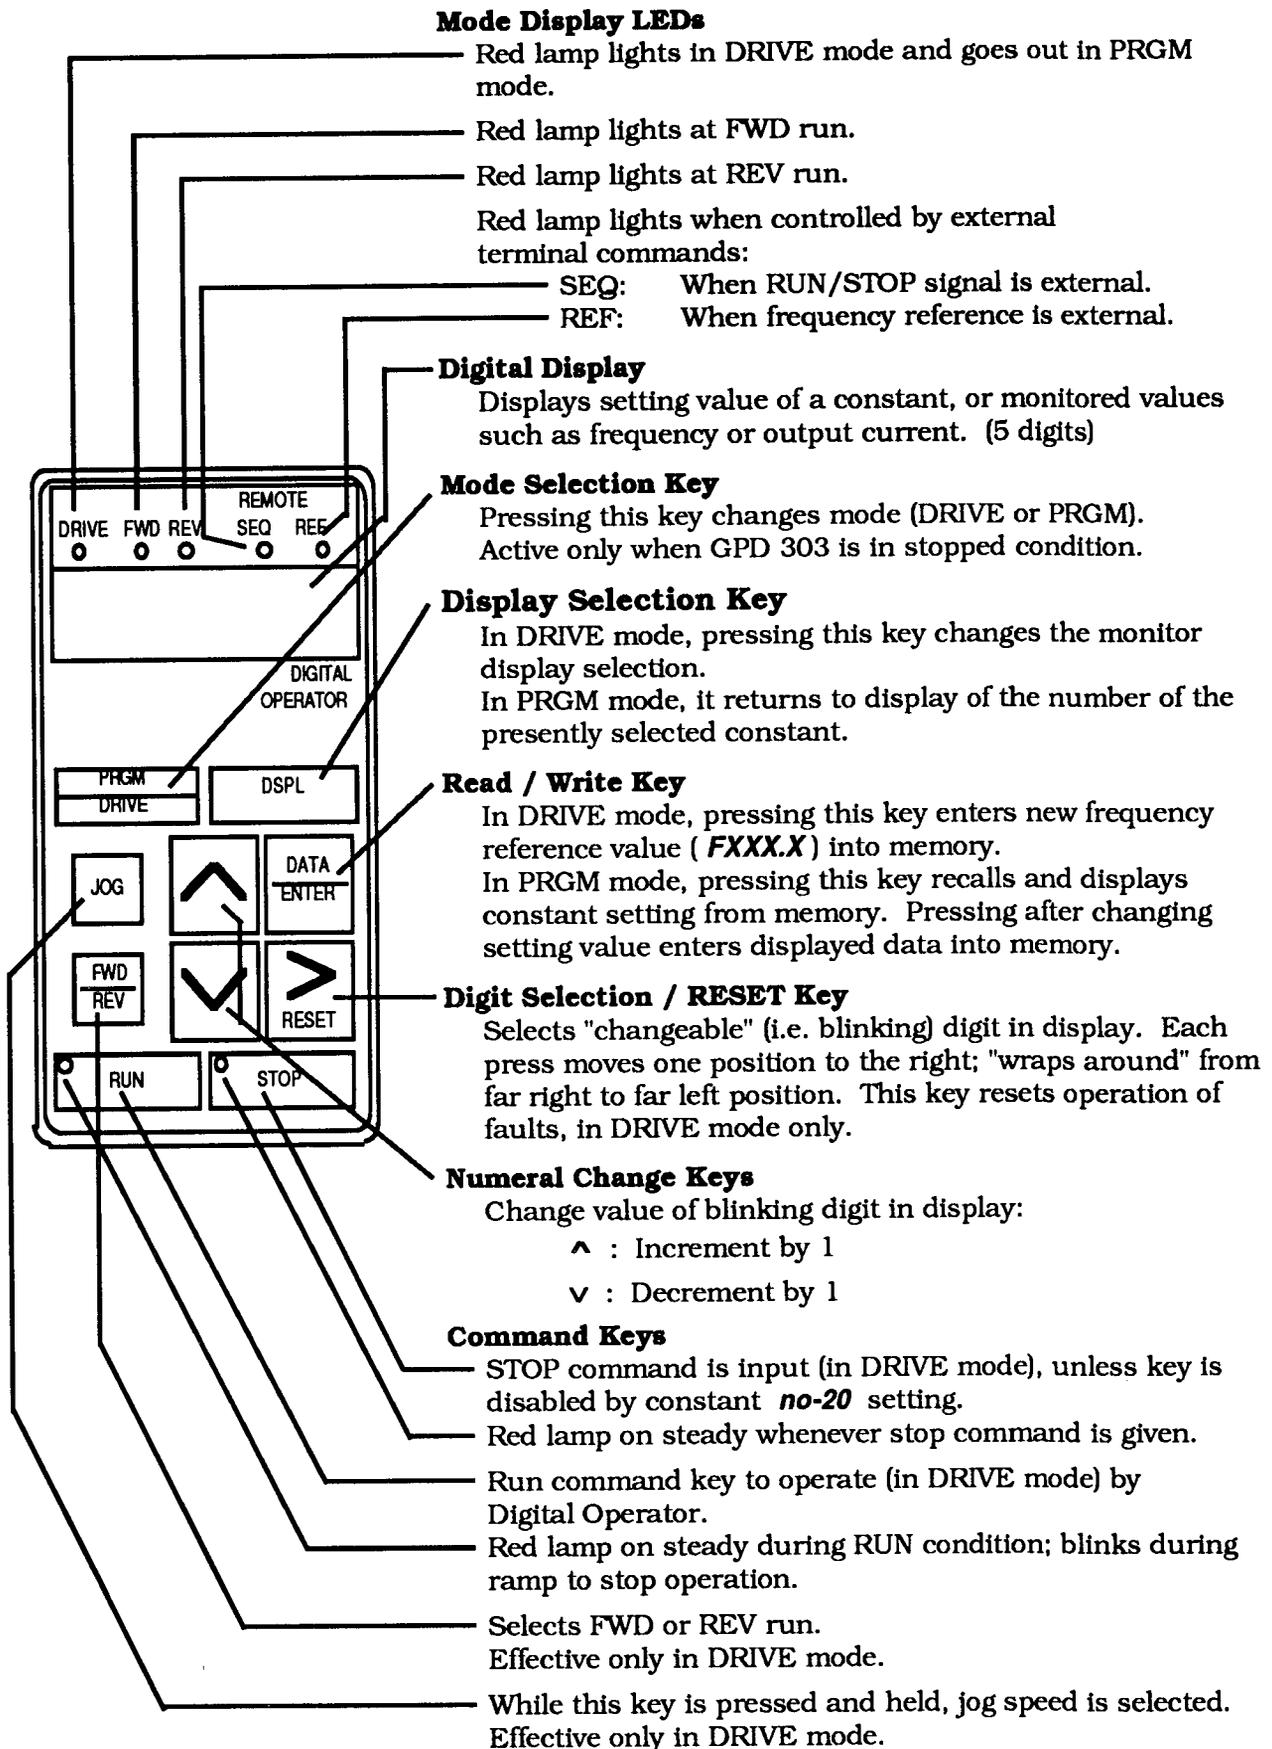

Figure 2-1. Digital Operator (Optional)
- () - Indicates alternate terminal marking, i.e. (R) and L1.
4. Customer to connect terminal G (E) to earth ground.
5. If Digital Operator is used, remote operators which duplicate functions of its command keys (see Figure 2-1) may not be required.